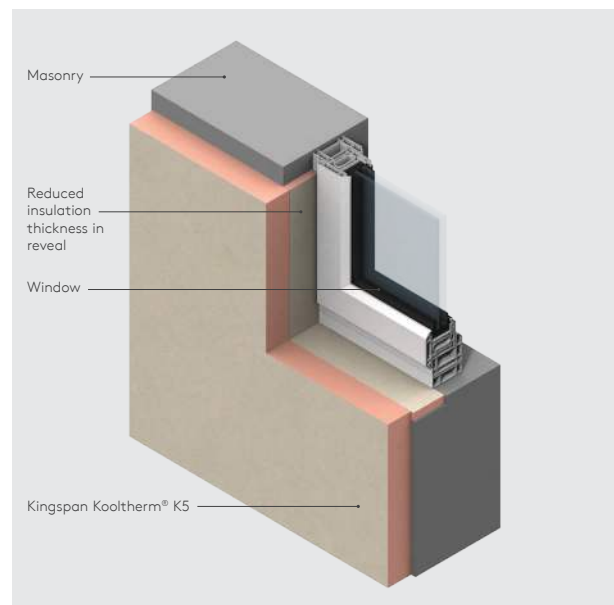

Figure 7
- Reveals should be designed to accommodate the 25 mm of Kingspan Kooltherm® K5 required to achieve a minimal thermal resistance of $0.6 m^2K/W$, and the depth of the cladding system (see Figure 7).
- Care should be taken to install the specified thickness of insulation around reveals (see Figure 7).